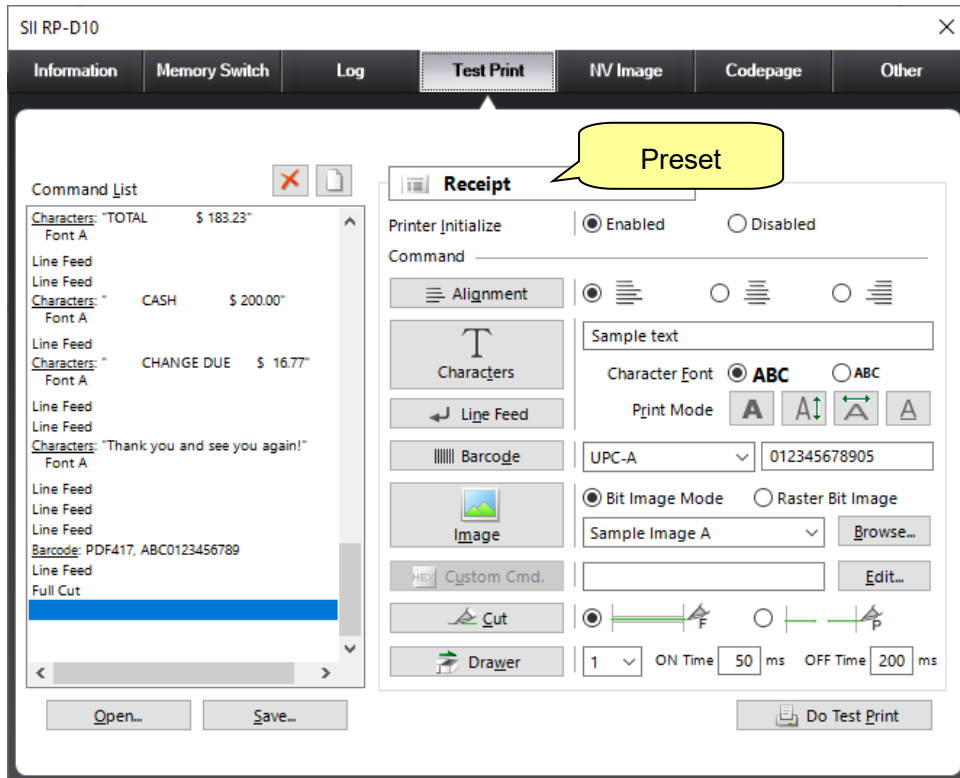

Figure 5-8 [Test Print] window
1. Click the [Open...] button in the Figure 5-8 [Test Print] window.
1. Click the [Save...] button in the Figure 5-8 [Test Print] window.